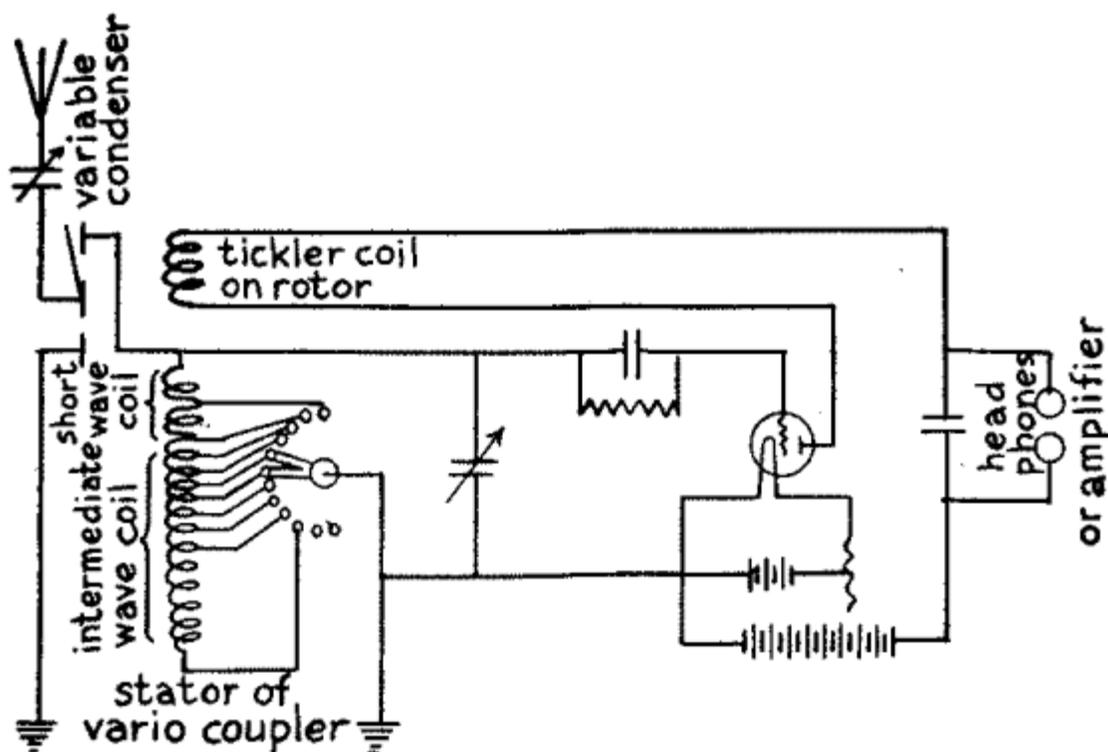

FIG. 58.—Wiring Diagram for Intermediate Wave Receptor with one Variocoupler and 12 section Bank-wound Inductance Coil.
when it is in this position there is no mutual induction between them, the tickler coil serves as a loading coil for the detector plate oscillation circuit. Inductance coils for short wave lengths are usually wound in single layers but *bank-wound coils*, as they are called are necessary to get compactness where long wave lengths are to be received. By winding inductance coils with two or more layers the highest inductance values can be obtained with the least resistance. A wiring diagram of a multipoint inductance coil is shown in *Fig. 58*. You can buy this intermediate wave set assembled and ready to use or get the parts and connect them up yourself.
The Parts and How to Connect Them Up.--For this regenerative intermediate wave set get: (1) one 12 section triple bank-wound inductance coil, (2) one variometer, and (3) all the other parts shown in the diagram *Fig. 58* except the variocoupler. First connect the free end of the condenser in the aerial to one of the terminals of the stator of the variocoupler; then connect the other terminal of the stator with one of the ends of the bank-wound inductance coil and connect the movable contact of this with the ground.